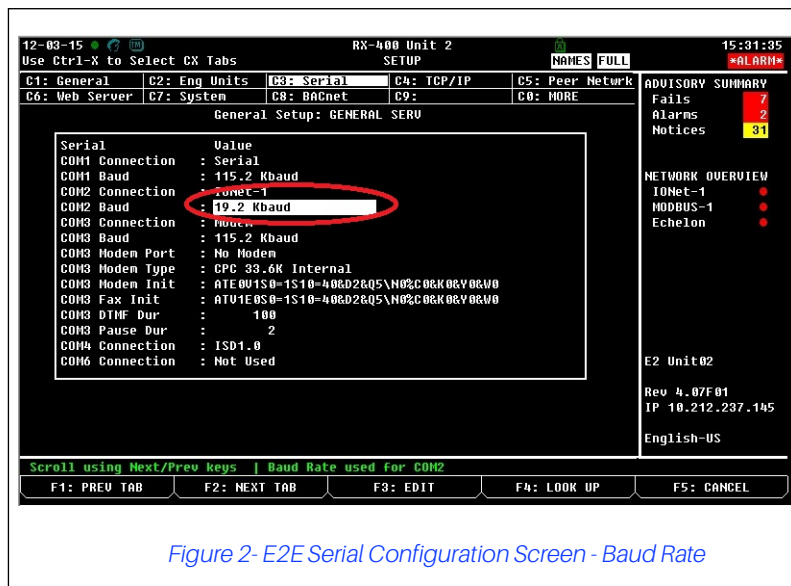

Figure 2- E2E Serial Configuration Screen - Baud Rate
3. Press **Ctrl** + **3** (or **F2** two times) to access the **C3: Serial** tab (Figure 2).